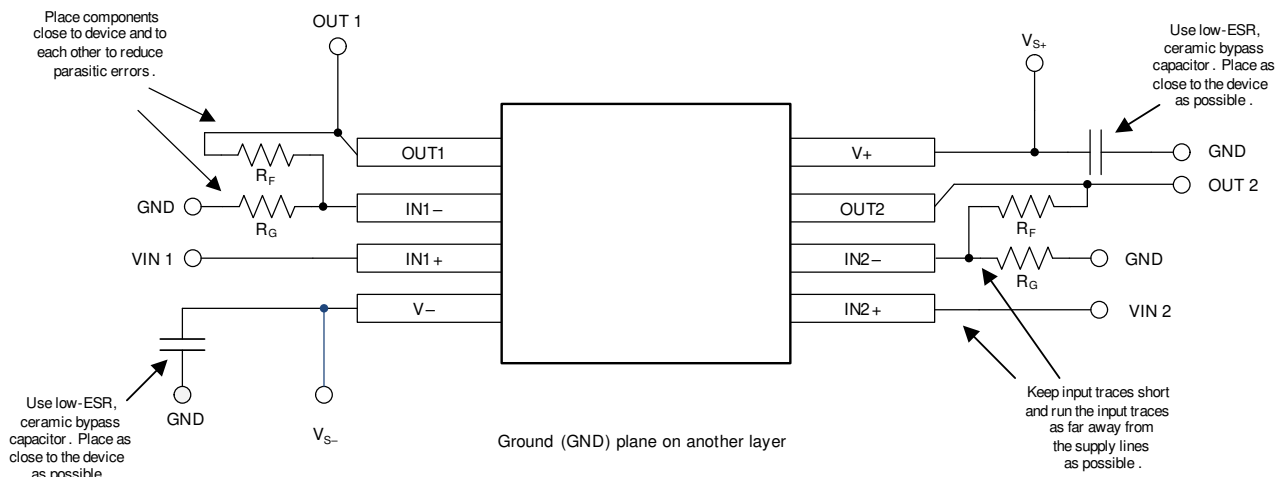

Figure 10-10. Layout Example
- Place the external components as close to the device as possible. As shown in Figure 10-10, keeping RF and RG close to the inverting input minimizes parasitic capacitance on the inverting input.